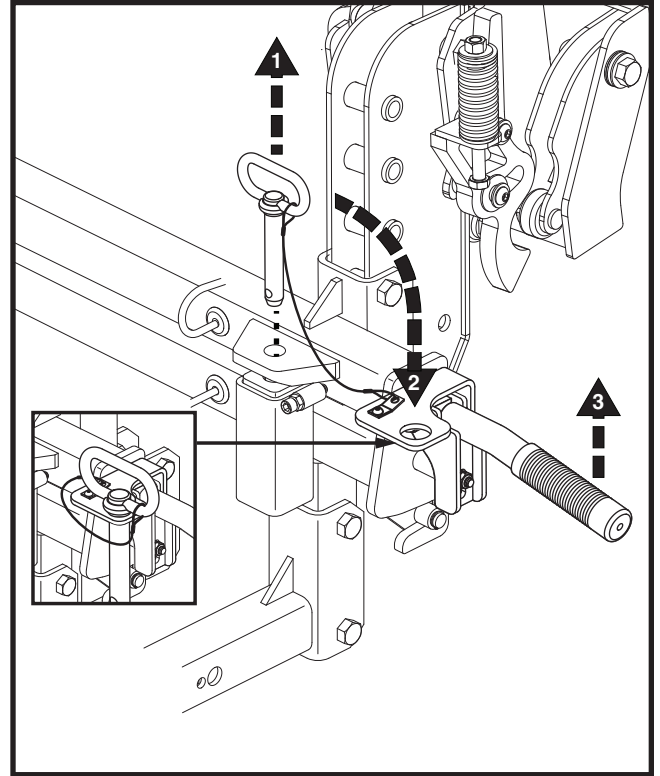

Figure 17. Operate Swing-away Adapter
2. If equipped, place the safety pin in the pin holder. **See figure 17.**